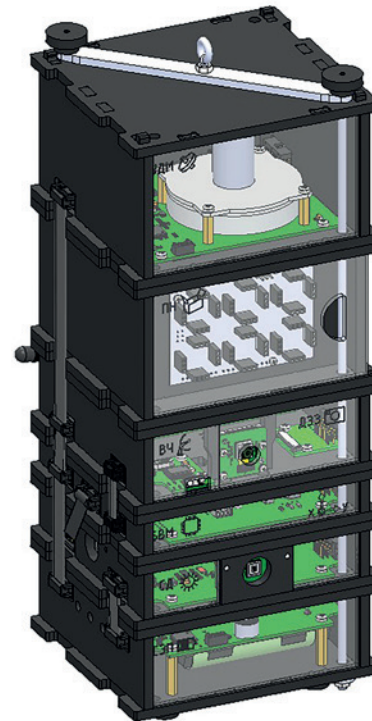

Fig. 103: A completely assembled nanosatellite functional kit (uniaxial configuration)
4) An assembled device will appear as follows (Fig. 103):